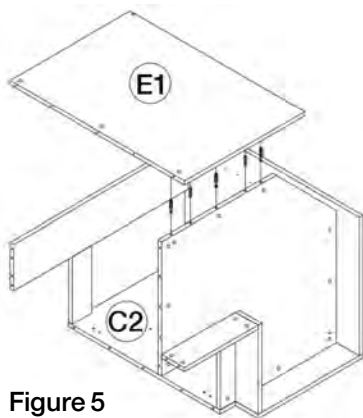

Figure 5
6. Install back side panel (E1) using the same processes as before. (Figure 5)